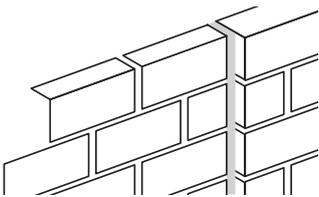
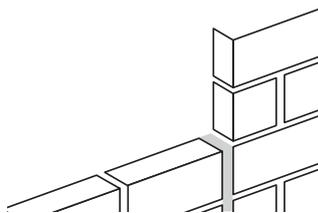

Fig. 1
Fig. 2
- Change in wall height or thickness (See Figure 1 & Figure 2)